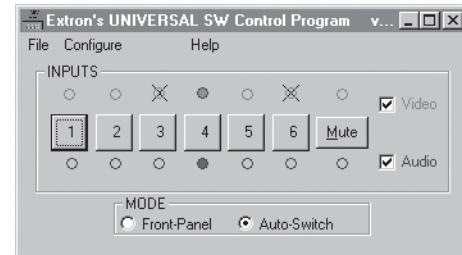

Figure 4-2 — Universal Switcher Control program window
3. The Extron Universal Switcher Control Program window (Figure 4-2) displays the input signal status for each input (signal present or not present), and the selected input.